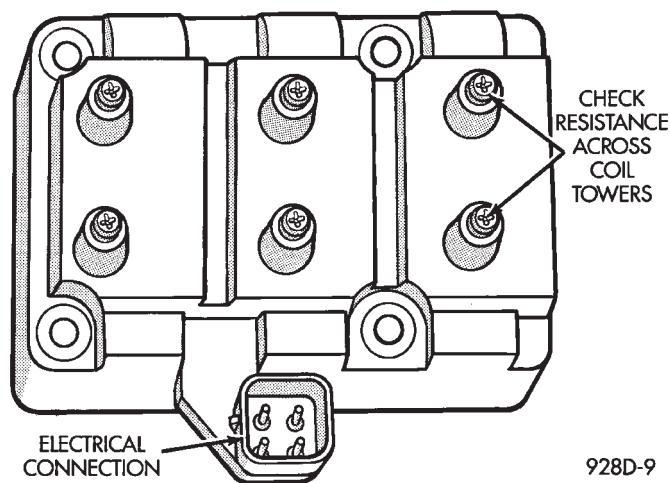

Fig. 8 Checking Ignition Coil Secondary Resistance
(4) Remove ignition cables from the secondary towers of the coil. Measure the secondary resistance of the coil between the towers of each individual coil (Fig. 8). Refer to the Coil Specifications Chart in the Specifications section of this group. Replace the coil if resistance is not within tolerance.